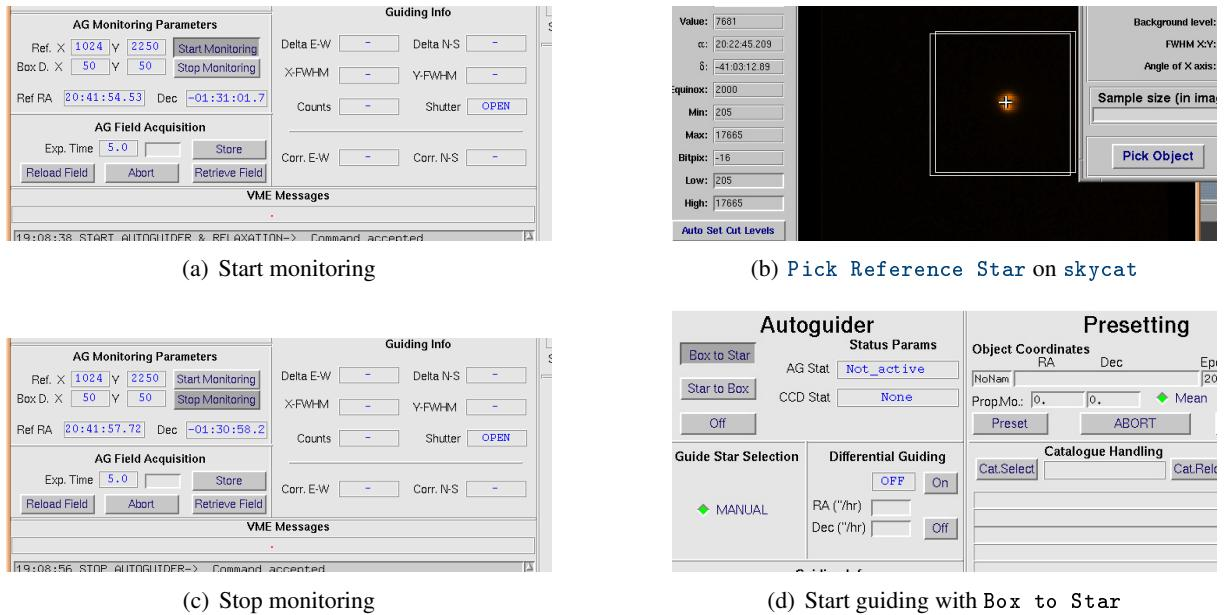

Figure 6.3: Fast guiding acquistion with WFI
A graphical outline of the procedure is given in Fig. 6.3, p. 57. Stopping monitoring and picking reference star can be performed in any order.
- B1. Click Start monitoring (Fig. 6.3(a), p. 57)
- B2. Click Stop monitoring (Fig. 6.3(c), p. 57)
- C2. Click on the star in the **skycat** window (Fig. 6.3(b), p. 57).
- D1. Activate the guiding (Fig. 6.3(d), p. 57)